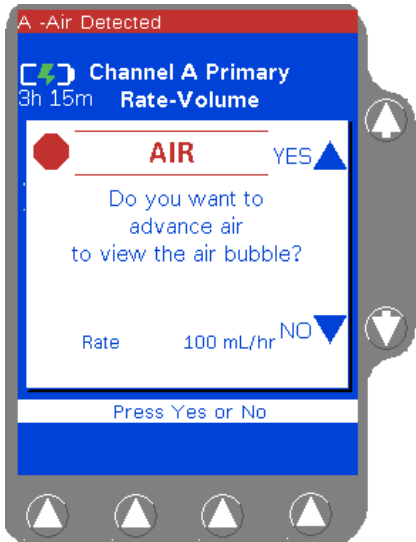

Figure 8-9 Advance Air Pop-up
- for triple channel pump: press the **Channel Select** key to access the appropriate programming screen. The **Advance Air** pop-up window is displayed (Figure 8-9).